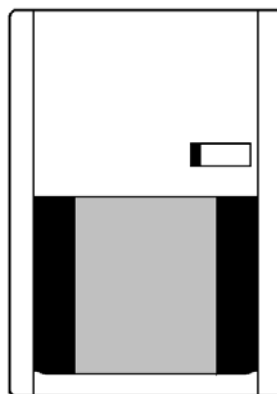

Figure 10.7 PIR Masking vertical example
6. **OPTIONAL:** If the PIR is extending too far outward (to the sides), place stripes of tape vertically on the sides of the PIR lens (see Figure 10.7); this will cover all outward beams producing a narrower coverage area.